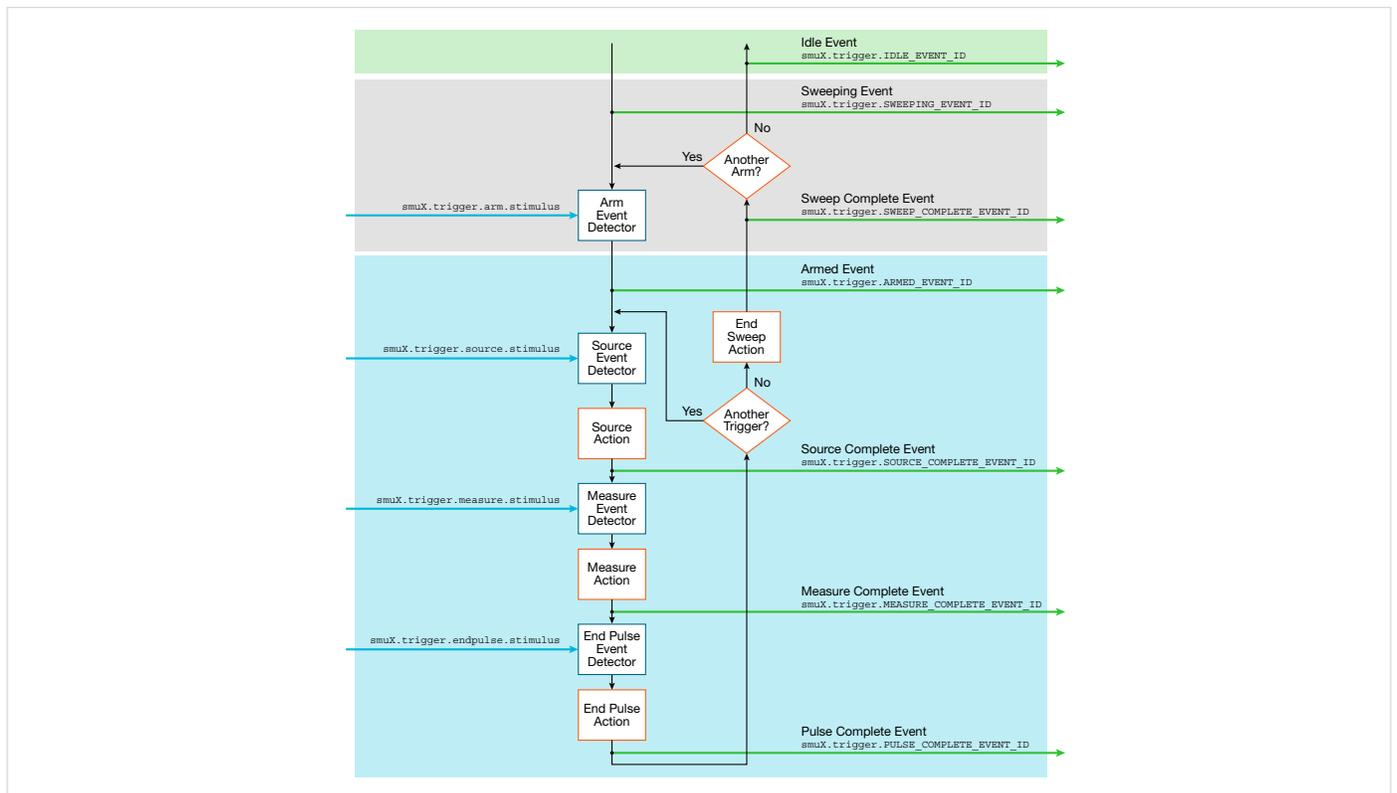
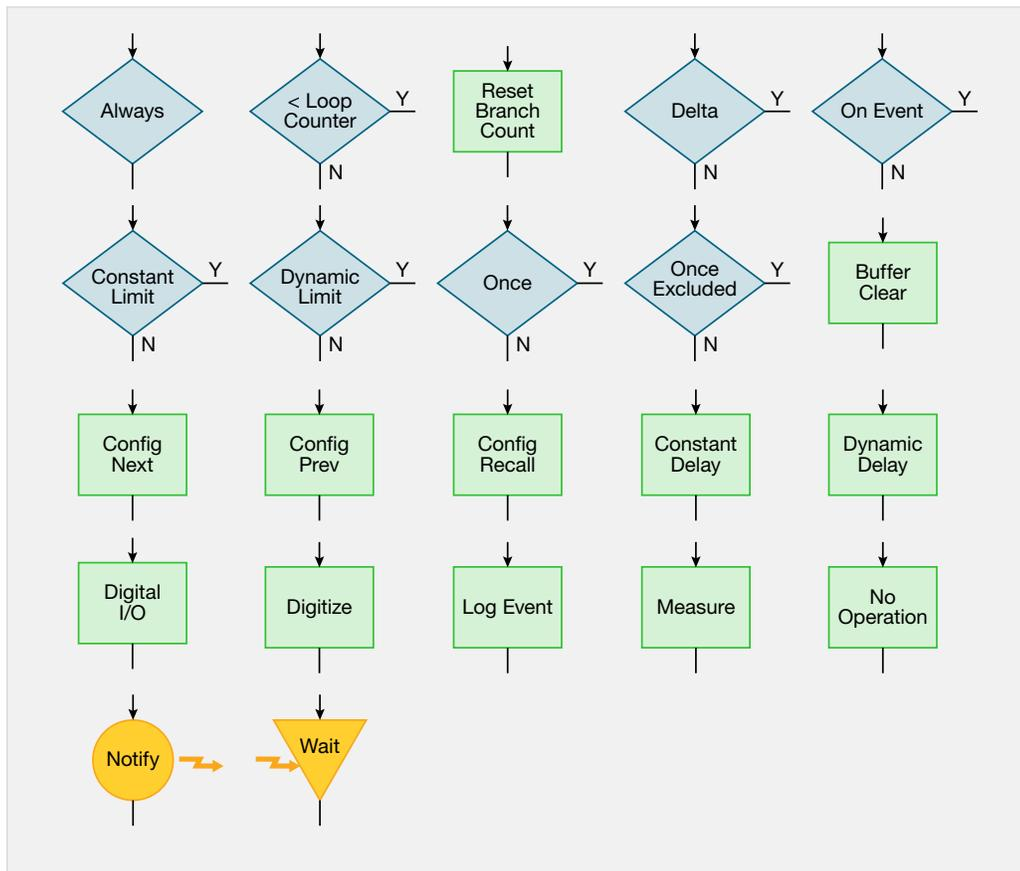

Figure 6. Keithley 2600B Series SMU flow chart for synchronous trigger model.
Figure 9. DMM7510 trigger flow building blocks.
**Figure 6** is a trigger model implementation of the LIV sweep of the VCSEL array on a Model 2602B SMU. The precise control of pulse width, pulse period and measure delay can be easily accomplished with a combination of timers and communicated to other instruments via TSP-Link triggers.
The DMM7510 does not have a fixed trigger model like the one shown in **Figure 6** for the 2602B; however, it provides the user with the capability to create any trigger model for any test sequence. **Figure 9** shows a full list of the building blocks for constructing a trigger model, which includes looping, event detector (WAIT), measure (ACTION), delay (DELAY), etc.